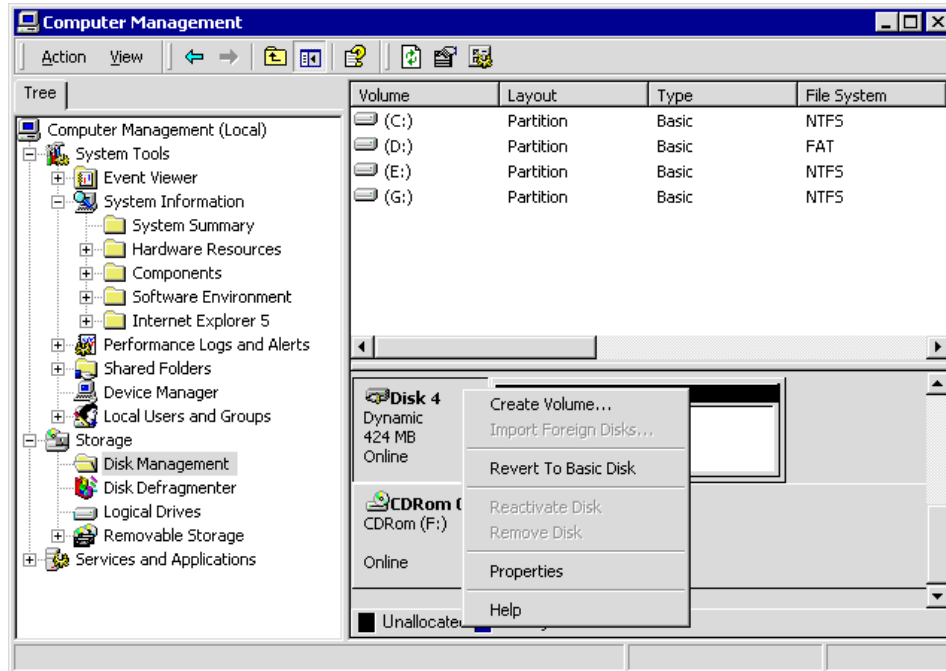

Figure 37. Changing a shared logical drive to Basic Disk
- 1) Right-click the **Disk** icon at the bottom of the Disk Management window (see Figure 37 on page 122).